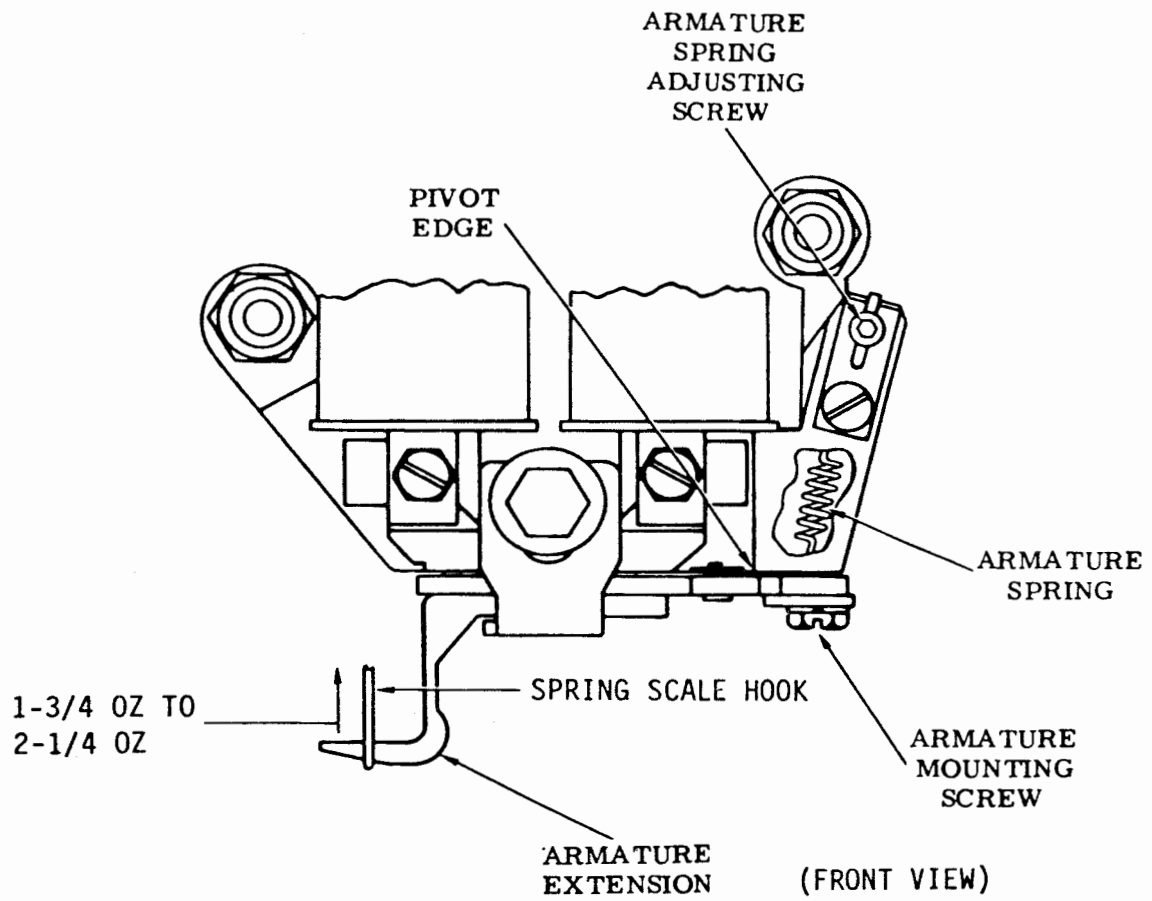

Figure 6-99. Selector Armature Spring
(1) Refer to figure 6-99.
(2) Attach spring scale hook as nearly vertical as possible to end of armature extension. Force required to pull armature marking position should be between 1-3/4 and 2-1/4 ounces.
(3) If scale reading exceeds specified limits, turn adjusting screw clockwise to increase spring tension or counterclockwise to decrease spring tension.